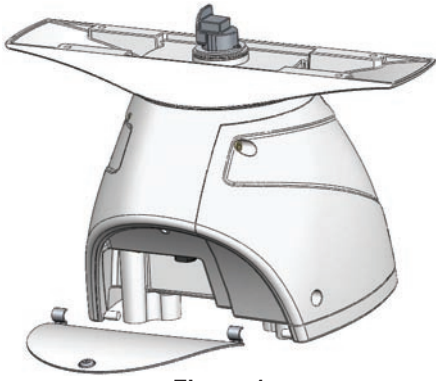

Figure 1
1. Remove the hatch on the front of pedestal by loosening the screw and lifting the hatch off of the hinges as shown in Figure 1.